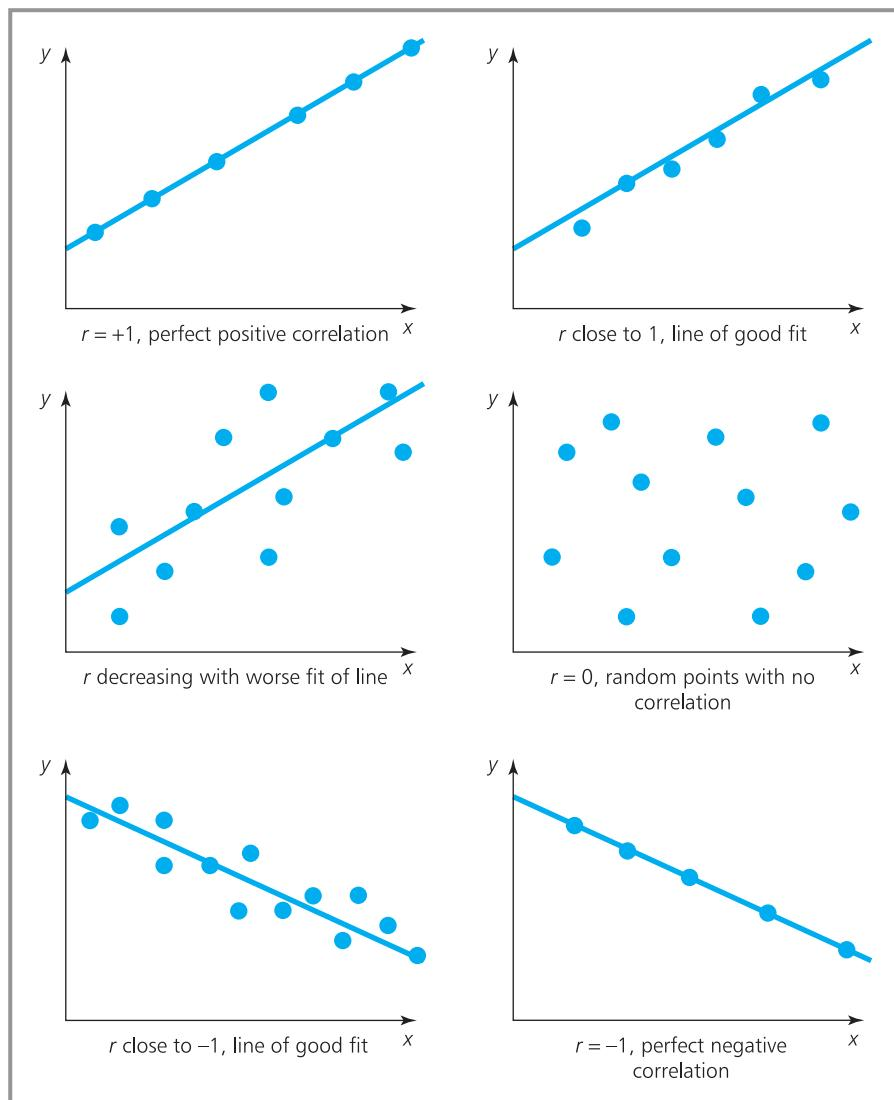

Figure 9.12 Interpreting the coefficient of correlation
- A value of $r = 1$ shows that the two variables have a perfect linear relationship with no noise at all, and as one increases so does the other (shown in Figure 9.12).